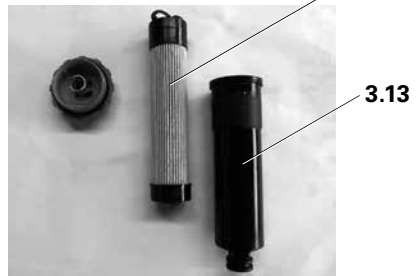

Fig. 25: Dismantling the filter element
2. Clean filter element (3.12); if necessary, dispose of correctly and replace with a new filter. (Fig. 25)